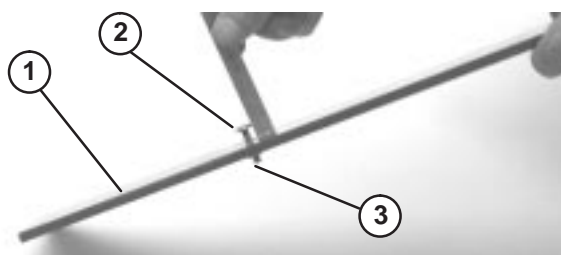

Figure 19
4. Loosen nut on gauge bar (Fig. 19) and set adjusting screw to desired height-of-cut. Distance between bottom of screw head and face of bar is height-of-cut.